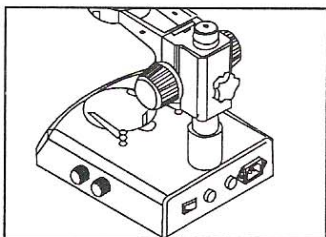

Fig. 1
- 1) Press the glass stage on the sunken place then the other side of the glass stage will be lifted. (Fig.1)